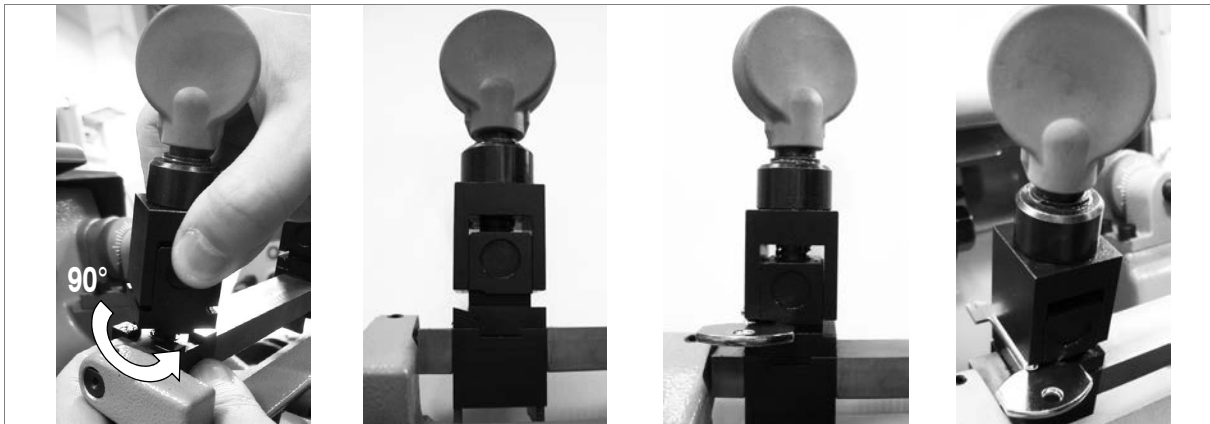

Fig. 52
- 1) Prepare the clamps with the bit key jaw turned 90° (fig. 52).
- 2) Lock the clamps into the horizontal position by means of the pin (L) (chap.7.1.4, page 23).